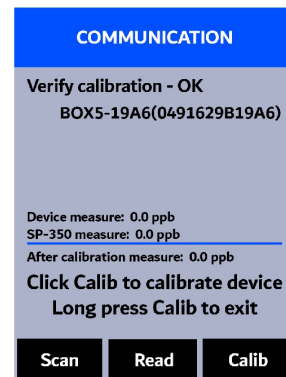

Figure 16.
14. If the calibration is successful, a "Verify calibration - OK" message will appear on the top of the display (Figure 16).